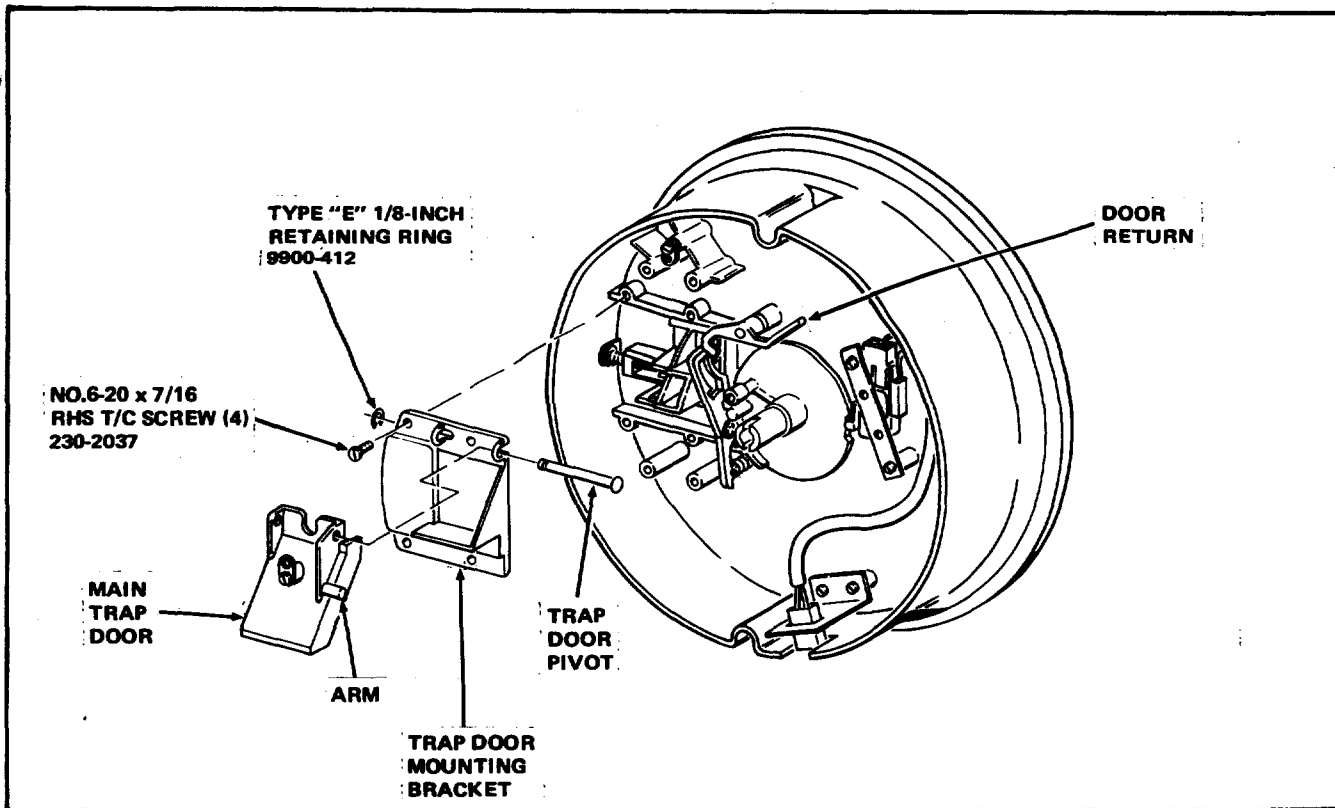

FIGURE 6
8. Install the Trap Door Mounting Bracket in the Coffee Hopper Base by fitting the Trap Door Mounting Bracket over the Coffee Hopper Adapter. Attach using four No.6-20 x 7/16 Round Head Thread Cutting Screws, Part Number 230-2037, included in the Kit. See Figure 6.
Door Mounting Bracket and Hinges Flanges of the Main Trap Door and secure with a Type "E" 1/8 inch Retaining Ring, Part Number 9900-412, included in the Kit. See Figure 6.